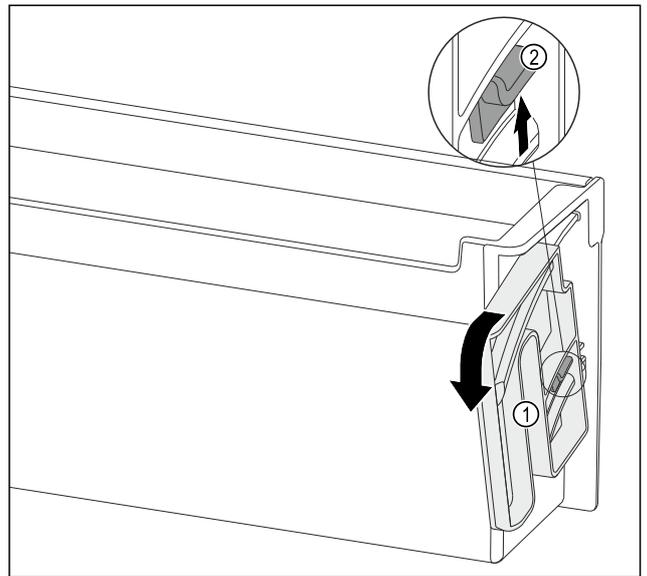

Fig. 96
- ▶ Turn the turning unit Fig. 96 (1) in the specified direction to the end stop.
- ▶ Press the tab Fig. 96 (2) up and remove the turning unit Fig. 96 (1).